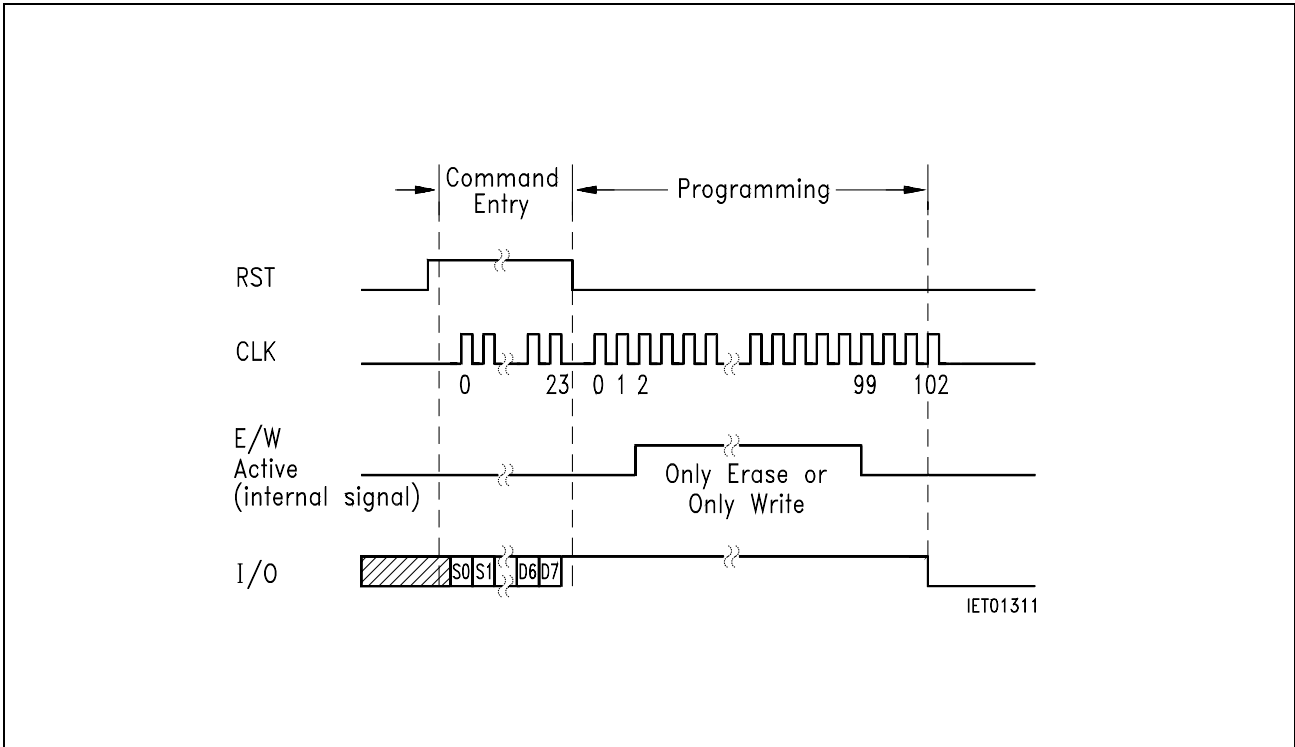

Figure 6
- Write only: This procedure is suitable if single bits of one byte shall be changed only from “1” to “0”. (duration 103 clock pulses, $f \leq 20$ kHz) **(Fig.6)**
- Erase only (= FF; duration 103 clock pulses, $f \leq 20$ kHz) **(Fig.6)**.